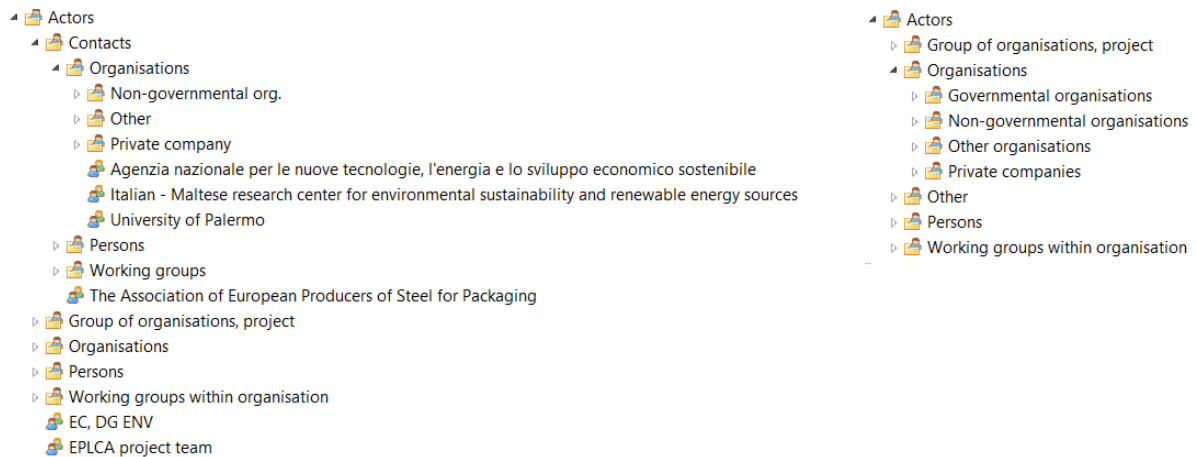

Figure 1. Actors categories in the original ELCD 3.2 database (left) and after refactoring (right), in openLCA 1.4.2
- Refactoring of categories in all elements of the database: the original ILCD package contained a structure of categories not compliant with the ILCD format and, in many cases, with duplicate folders or inconsistent organization (Figure 1).